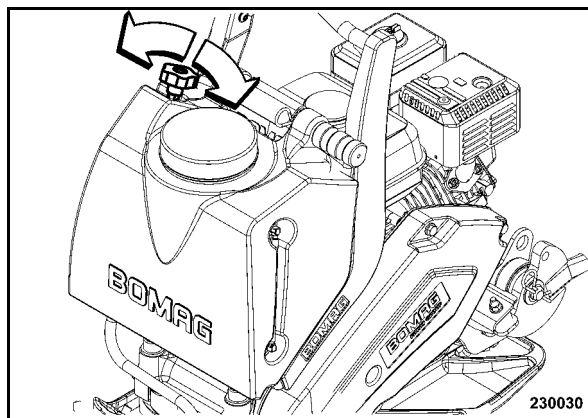

Fig. 27
- Open or close the rotary button (Fig. 27) as required (continuously variable adjustment).